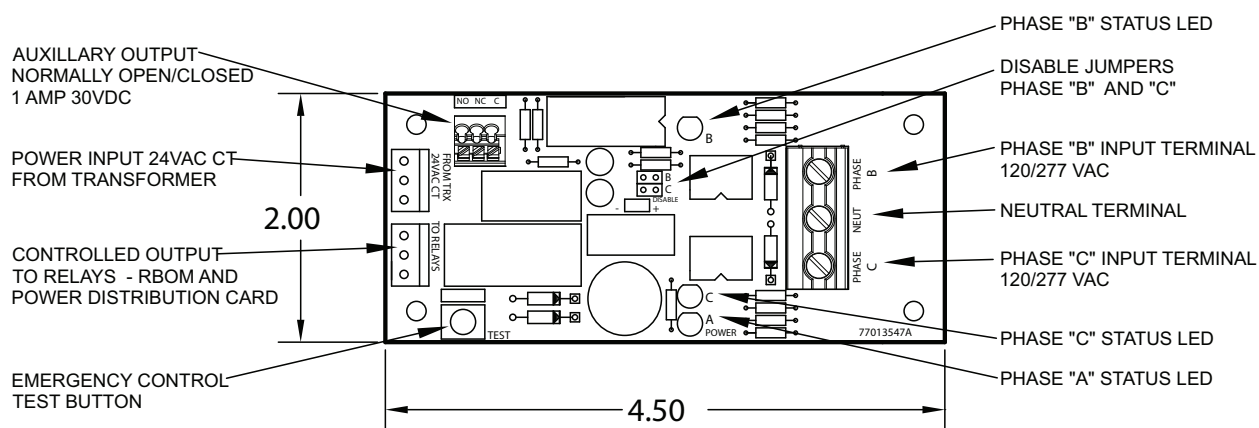

Figure 3 - Phase Monitoring Module detail
* See Figure 3 and PMM information for monitoring all 3 phases of normal power
An auxiliary status output relay is provided for signaling others systems. The PMM has connection terminals for the normally open/normally closed auxiliary output, this isolated relay is rated 1 Amp@ 30VDC (See Figure 3).
Testing the entire panel can be done by using the test button on the PMM (See Figure 3).